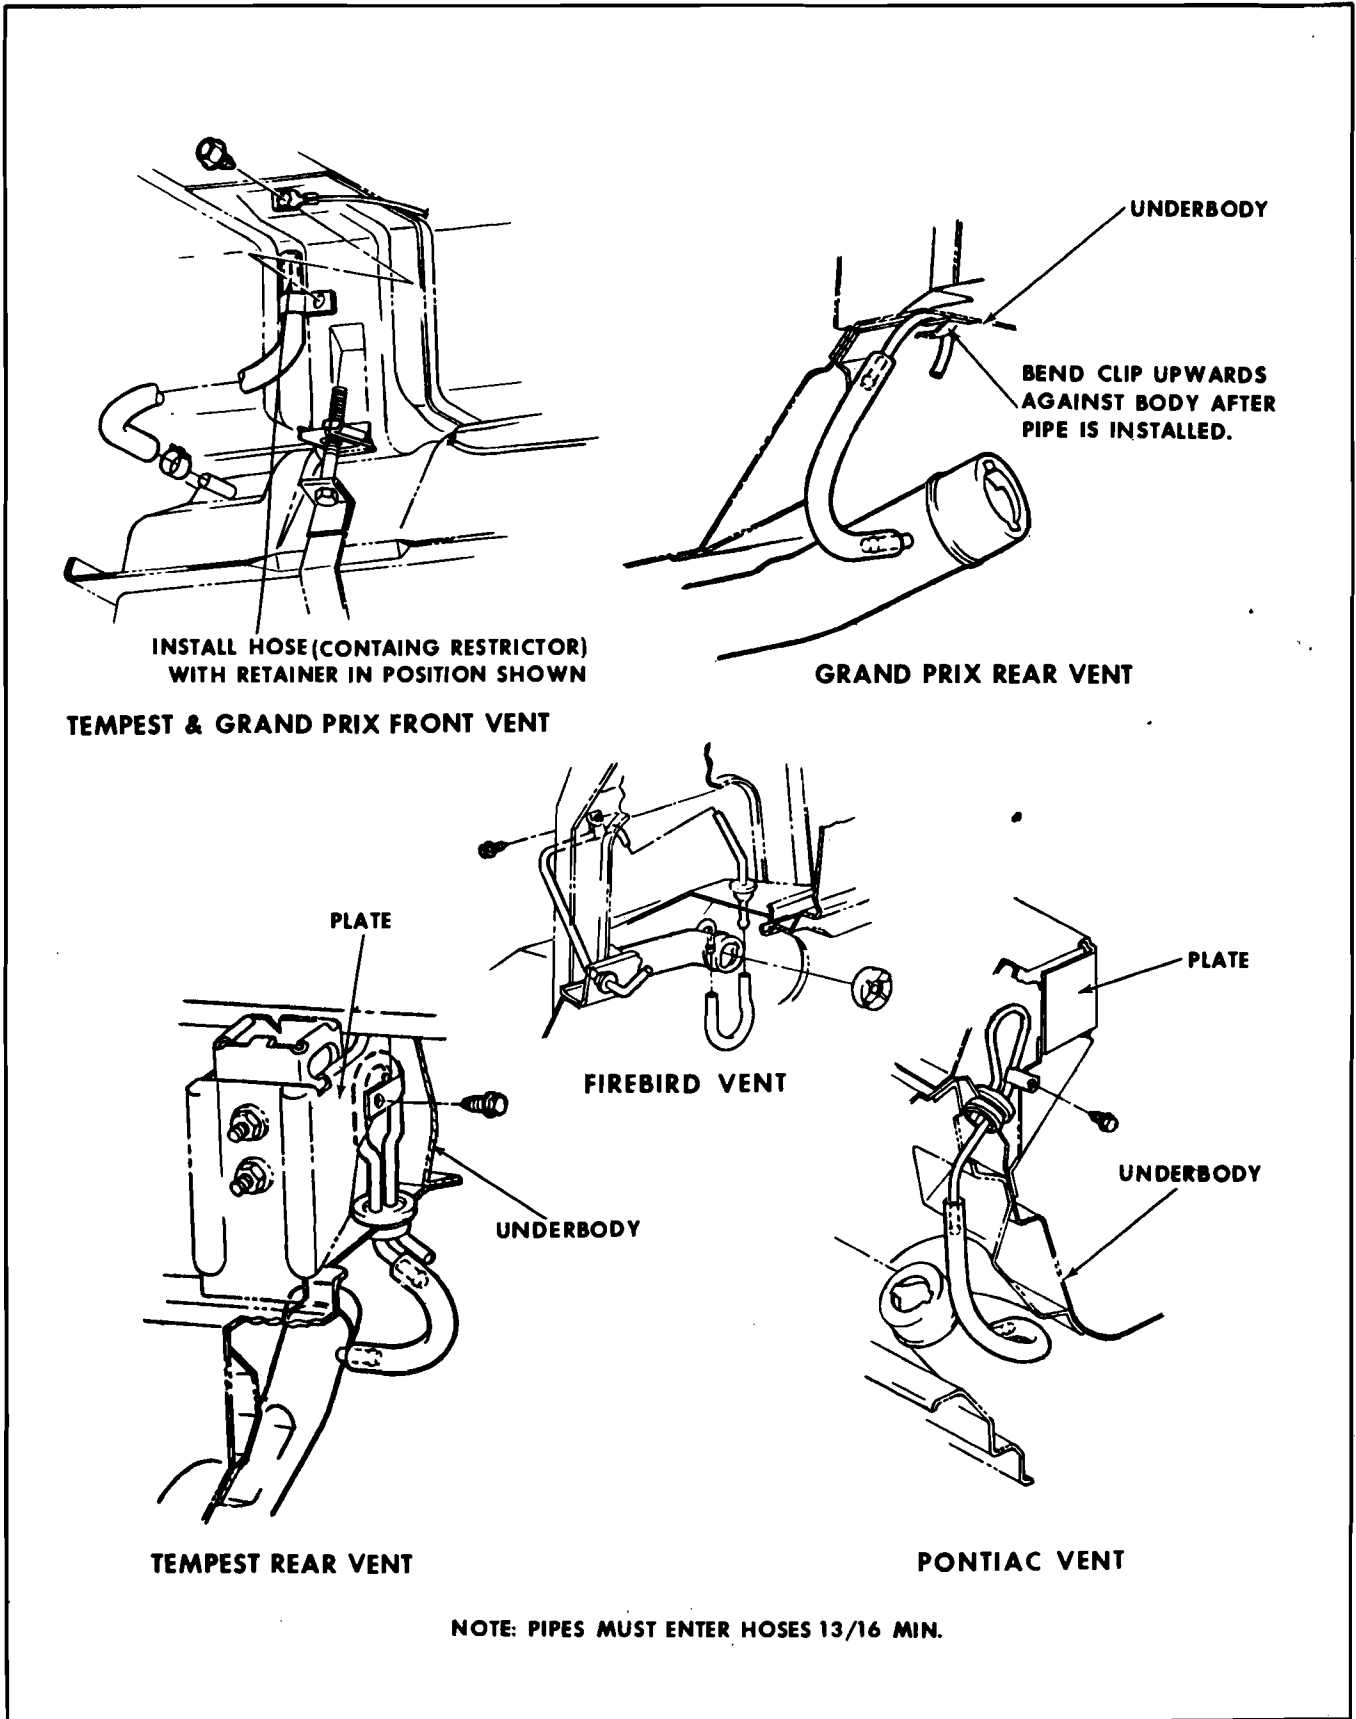

Fig. 8-3 Vent Hose Routing
5. Disconnect rear vent tube hose from filler neck on all models and front vent hose on Tempest and Grand Prix (Fig. 8-3).